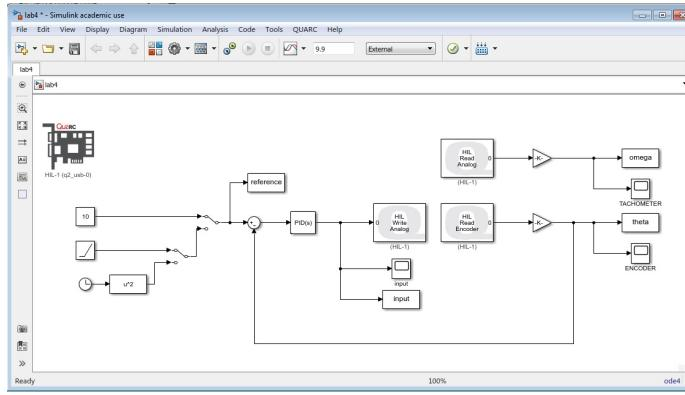

Figure 4.3: Simulink model for a DC Servo Motor system
3. Assemble (or modify an existing) a Simulink model according to Figure 4.3.